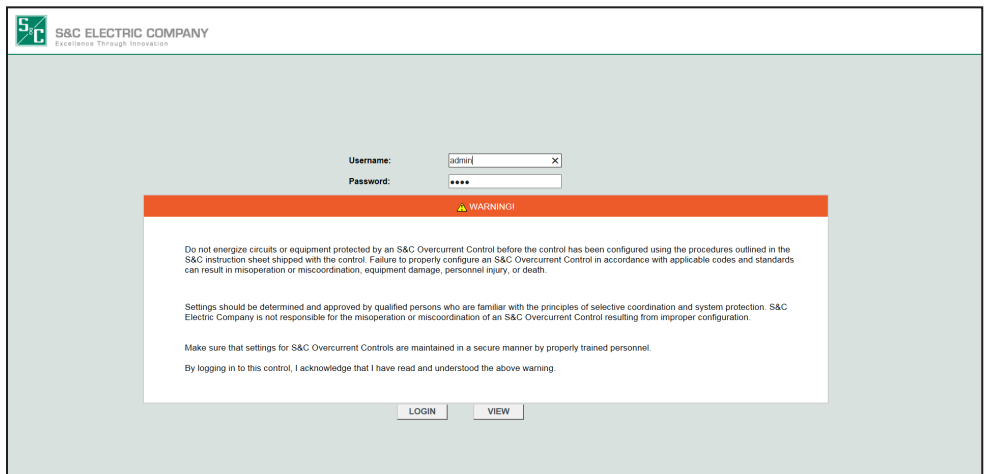

Figure 6. Enter the default admin username and password.
STEP 1. At the login screen, enter in the default admin username and password. See Figure 6.